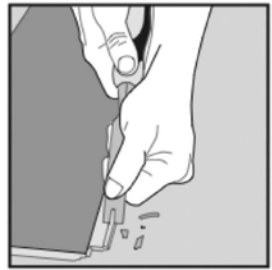
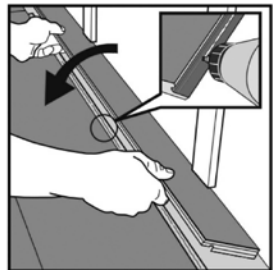
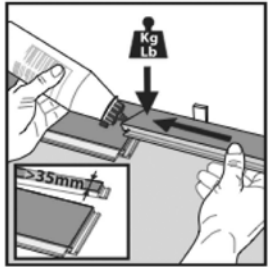

Fig. 8
Fig. 9
Fig. 10
- When working under doorjamb or cabinets, there will not be enough clearance to achieve the 45° angle required to engage the sides. In these situations, cut away the locking element using a wood chisel (Fig. 8) and glue the boards together wood glue (Fig. 9). The boards in the last row will need to be cut to the necessary width and glued together as well, at both the side and end joints (Fig. 10). Apply weight as needed until the adhesive has set. Remember to always leave 1/2" expansion space between the last row and any vertical surface such as pipes or posts.